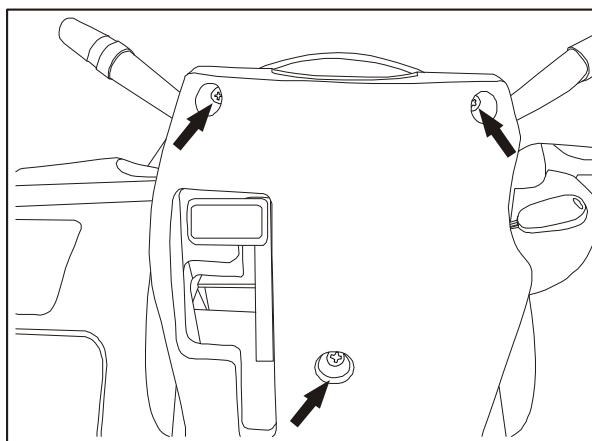

Figure 6-13 Disassembly of upper and lower cover plate for steering column
1. Remove the upper and lower cover board of steering column as shown in Figure 6-13.